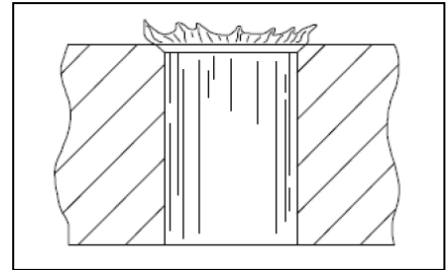

Figure 5 Crowned Burr
- c. Crowned Burr (see Figure 5):